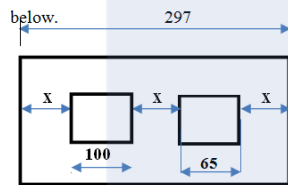

Figure 6
13. calculate the value of X in the figure 6 below